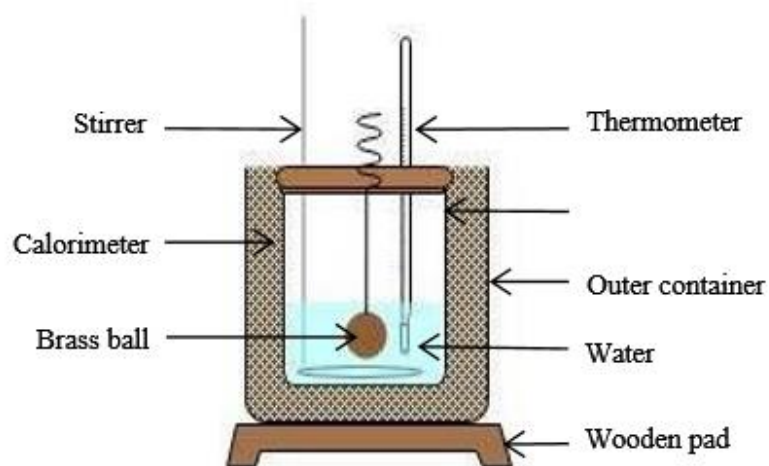

Fig. 2: Experimental setup to determine the specific heat capacity of brass
g) Transfer the ball into the calorimeter with water (as in Fig. 2).